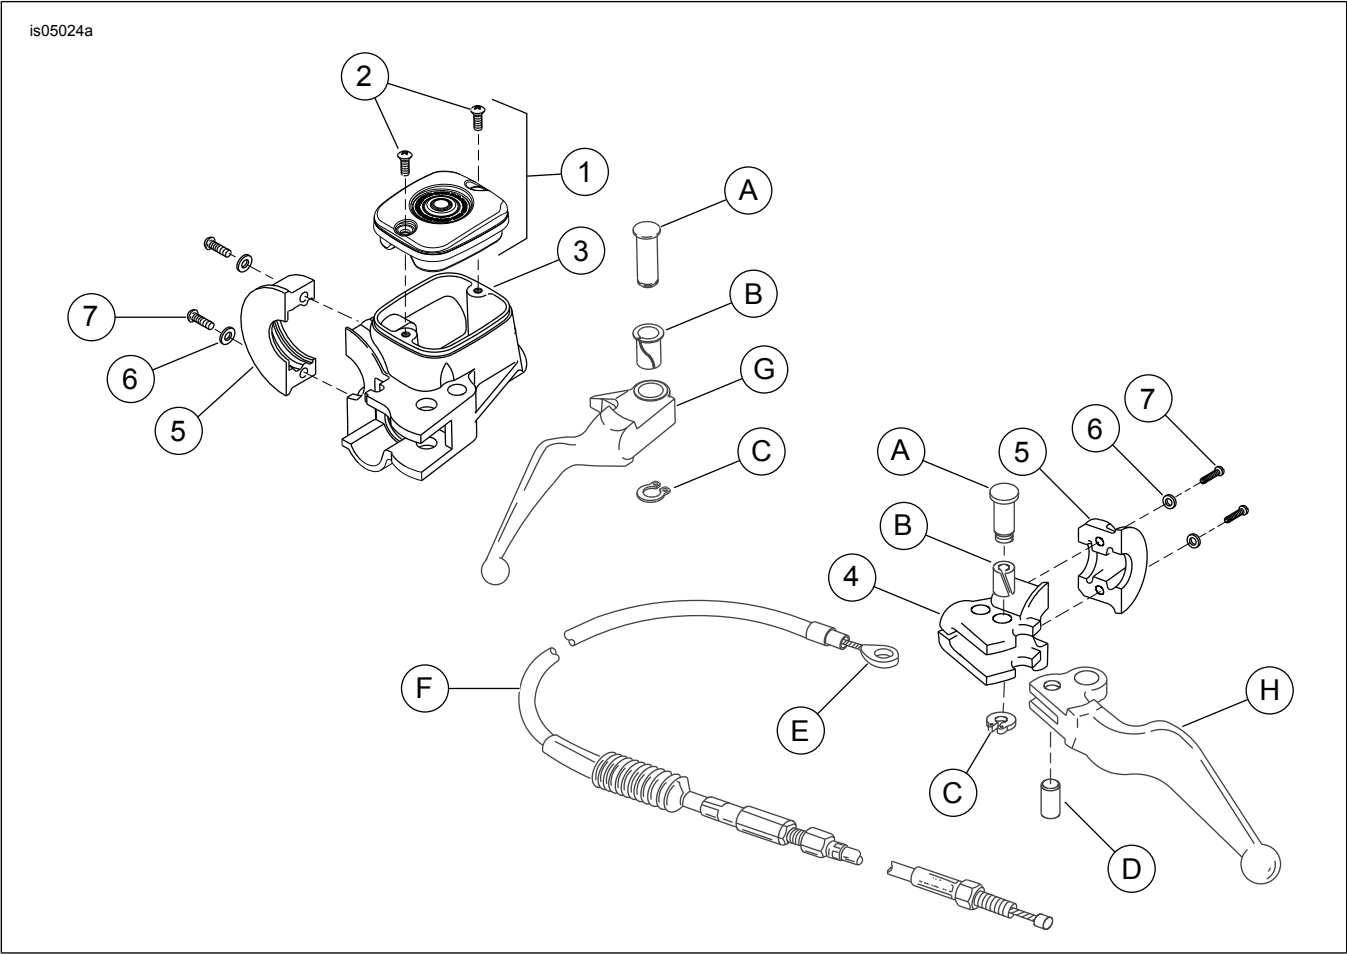

Figure 6. Service Parts: Chrome Master Cylinder Kit
4. See Figure 6. Using T-27 TORX® drive head, remove the two screws with flat washers securing the handlebar clamp to the master cylinder housing. Remove the brake lever/master cylinder assembly and clamp from the handlebar.
3. See Figure 6. Remove the clutch cable anchor pin (D) from the hand lever (H). To remove anchor pin, it will be necessary to remove the retaining ring (C) and pivot pin (A).
4. Remove clevis (E) and clutch lever.
1. See Figure 6. Install the clutch cable (F) and anchor pin (D) in the clutch hand lever (H). The flat in the pin must face in towards the hand lever.